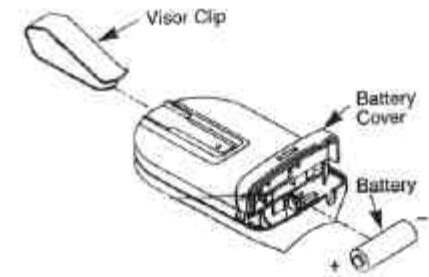

Fig. 3
**Step 5-3** Attach Visor Clip to Transmitter (Fig. 3).